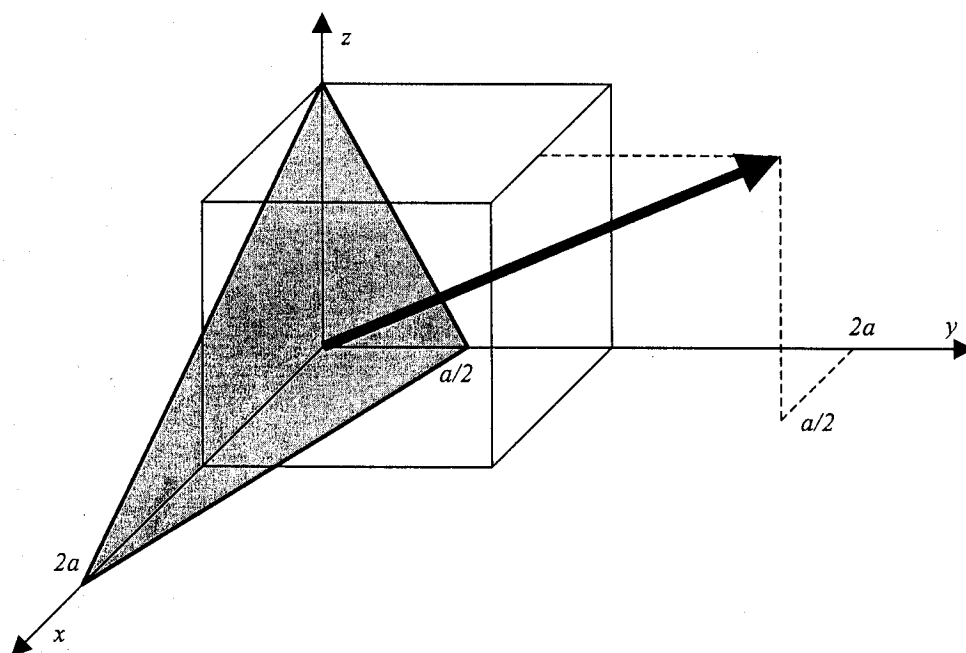

Figure 1
- 1 (a) For the unit cell of a cubic crystal structure with side dimension a , as shown in Figure 1, determine the Miller indices for the crystallographic plane (shown shaded) and the crystallographic direction (shown by the black arrow). Indicate clearly the steps taken. Can you see any geometrical relationship between the plane and the direction? (5)